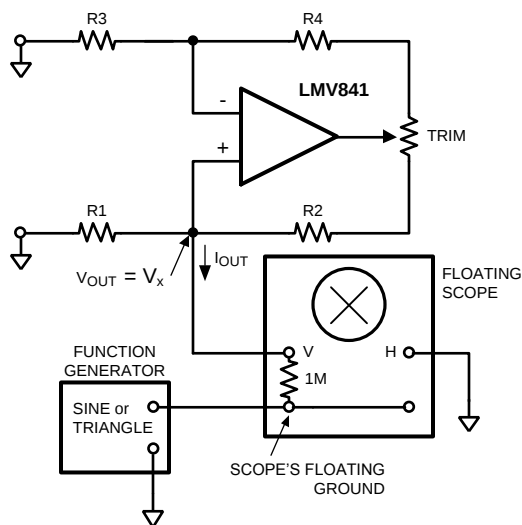

Figure 13. Good Test for Z_{OUT} Using Floating Scope
Refer to Figure 13. An ordinary sine or triangle wave function generator can be used to drive the Vout node. A floating scope is inserted between the function generator and the Vout. Any current flowing into or out of Vout, can be seen on the scope's vertical display. When this is cross-plotted against the main Vout, by connecting ground to the horizontal (X) input, it is easy to see the slope of Iout versus Vout. Then it is easy to adjust the trim pot as in Figure 2, Figure 3, or Figure 4, to trim for very high Zout. It is easy to get the curve just about flat, for the range of interest to you. Of course, if you want a very wide voltage range, you may find some curvature or nonlinearity. Most op-amps are not perfect for linearity of Common Mode Range, but some are better than others.